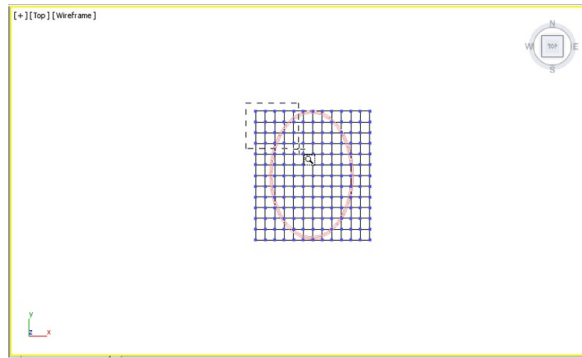

Figure 12-74 A selection box dragged around the vertices using the **Zoom Region** tool
10. Move the vertices to the exact location by choosing the **Zoom Region** tool and drag a selection box around the vertices of the upper left portion of *stringed area* to zoom in on them, refer to Figures 12-74 and 12-75.